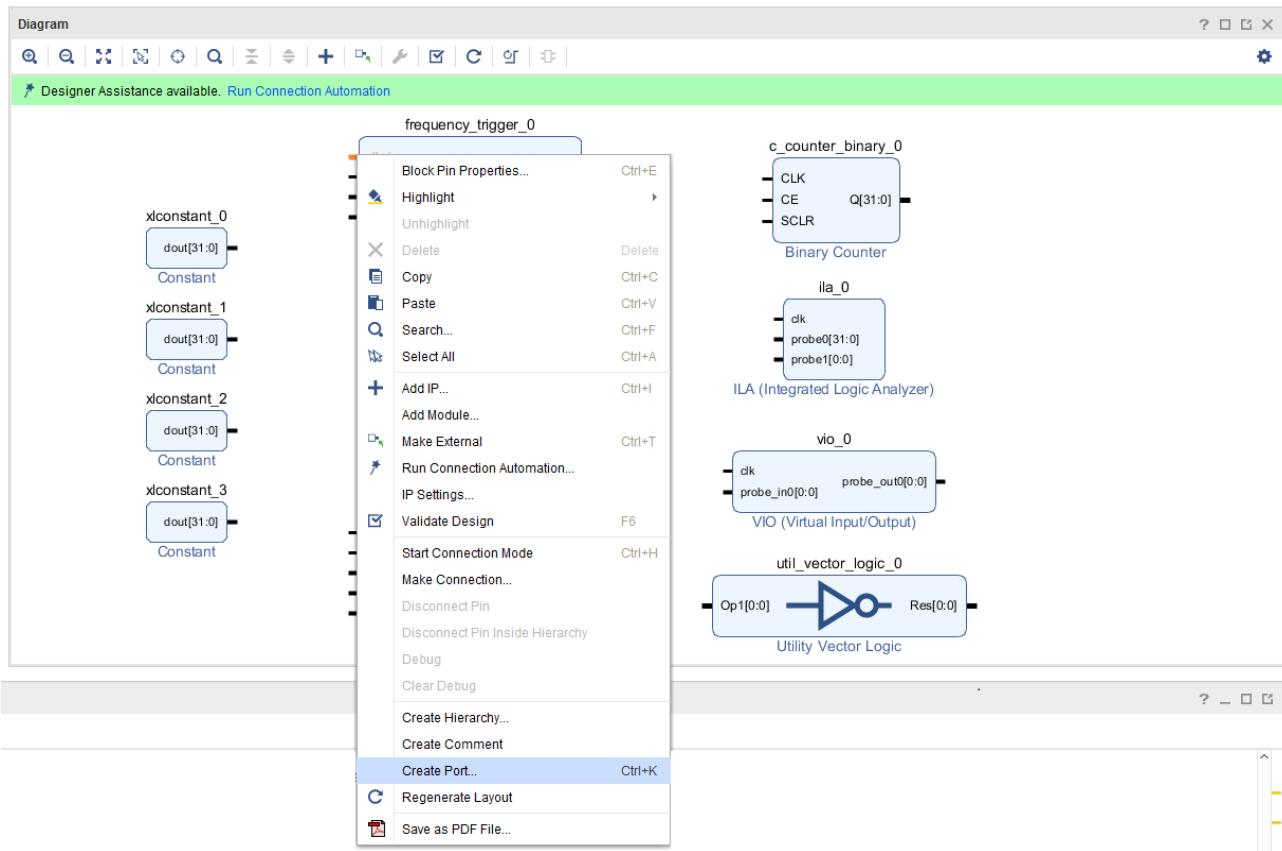

Figure 12.59: Create Port option
- Select **clk_in** pin, right-click on it and select **Create port...** option, see Figure 12.59.